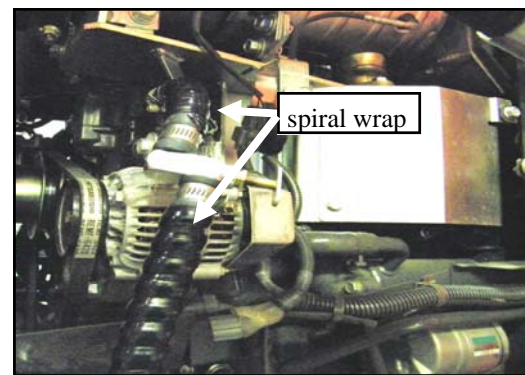

FIG. 2.8
2.8 Per figure 2.8, install spiral wrap provided to protect the heater hose from the side engine cover and reinstall cover.